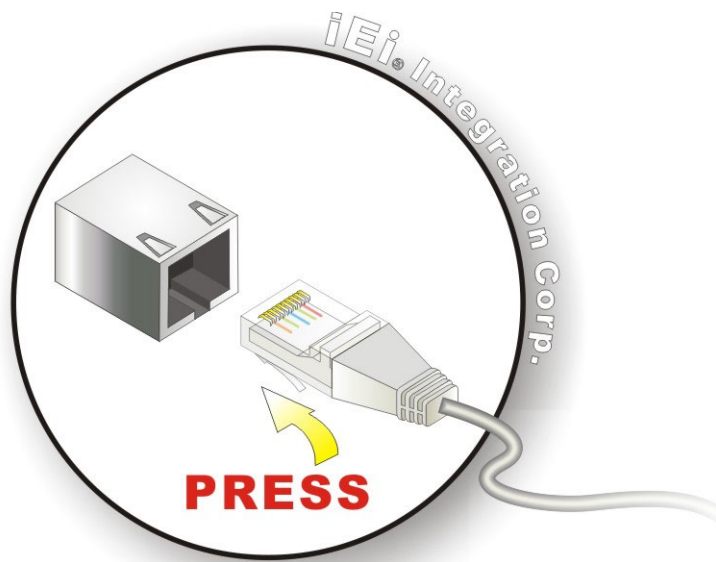

Figure 4-20: LAN Connection
Step 2: **Align the connectors.** Align the RJ-45 connector on the LAN cable with the RJ-45 connector on the NANO-CV-D25501/N26001. See **Figure 4-20**.